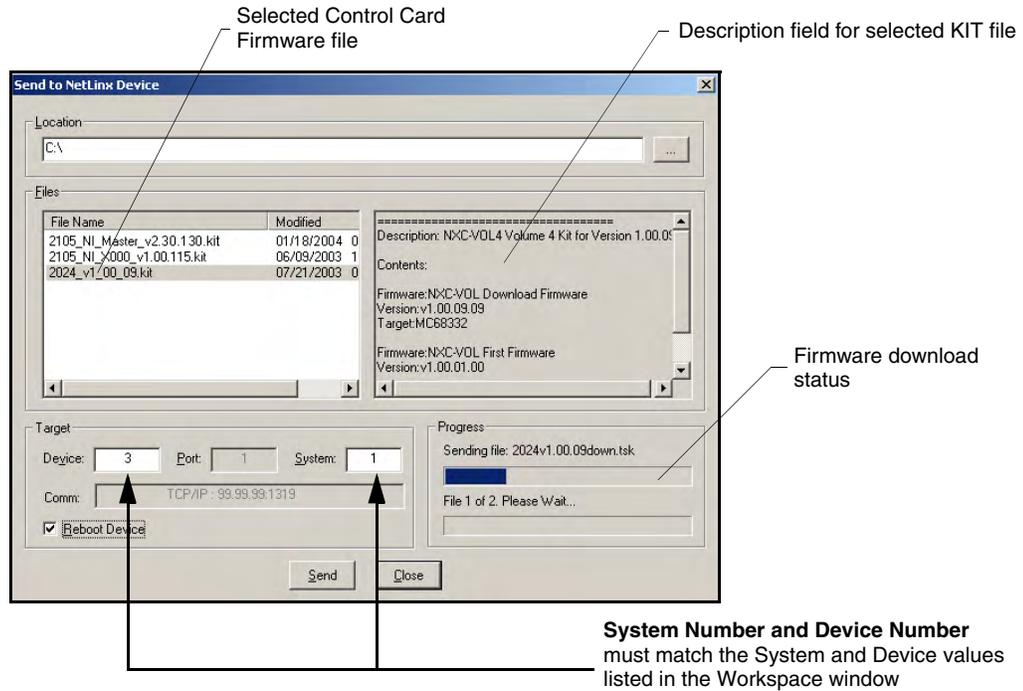

FIG. 34 Select Control Card firmware file for download page (via IP)
2. Click on the **OnLine Tree** tab in the Workspace window to view the devices on the System. *The default System value is one (1).*
6. Select **Tools > Firmware Transfers > Send to NetLinX Device** from the Main menu to open the Send to NetLinX Device dialog (FIG. 34). Verify the target's **Device and System** numbers matches the value listed within the System folder in the Workspace window.
7. Select the Control Card's KIT file from the **Files** section (FIG. 34).